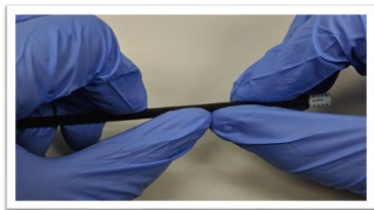

Figure 5: Proper Bending Technique
15. Holding the stylus shaft with both hands, slowly bend in the direction the electrodes are facing, to the desired angle at the desired bend location (See Figure 5). **Do not hold the tip while bending the stylus as damage can occur.**